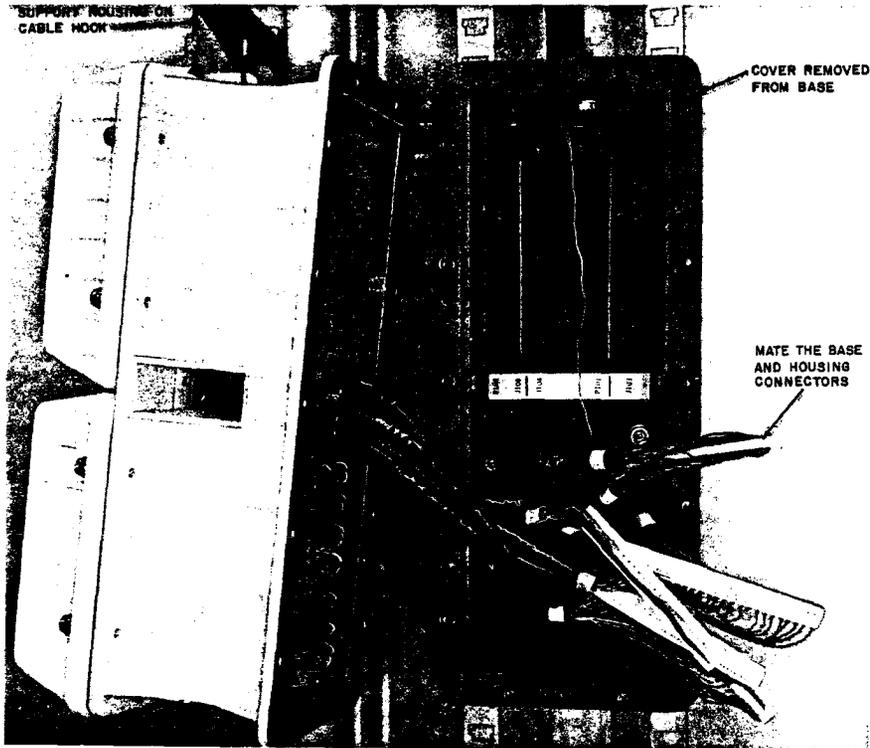

Fig. 33—Installing Housing
**6.02** Temporarily support the housing by its upper cover retaining wire on a cable hook as shown in Fig. 33. If necessary, remove any 710 loading units and break any through connections by using the bridge removal tool as outlined in Section 632-205-220.